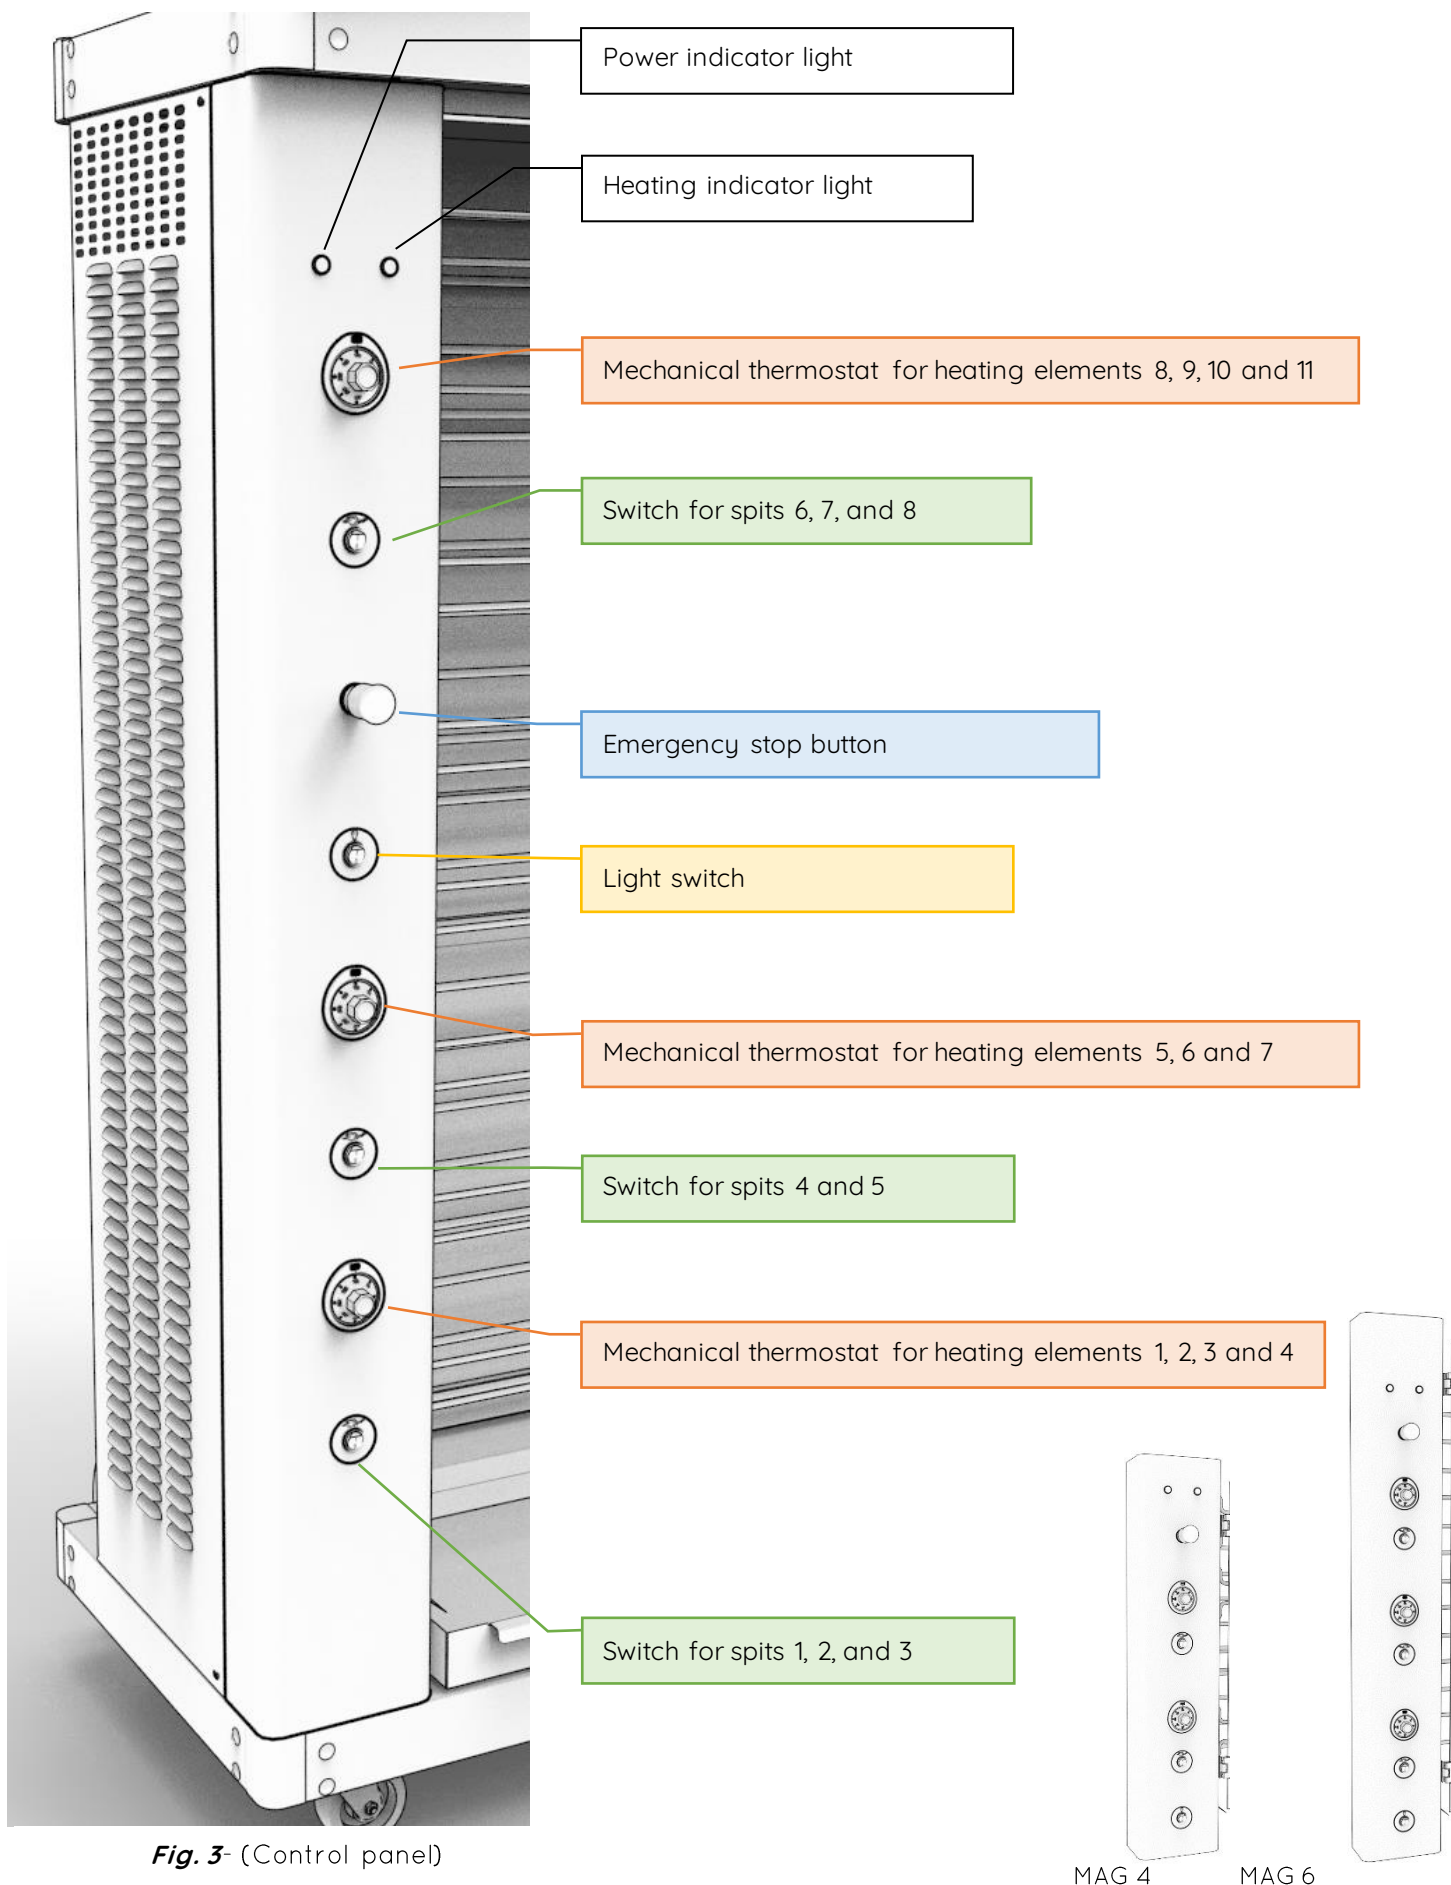

Fig. 3- (Control panel)
- A control panel **13** (*Fig. 3*).